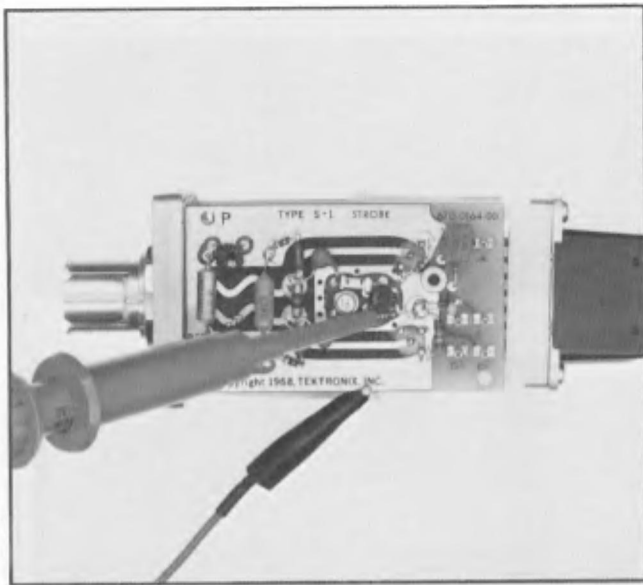
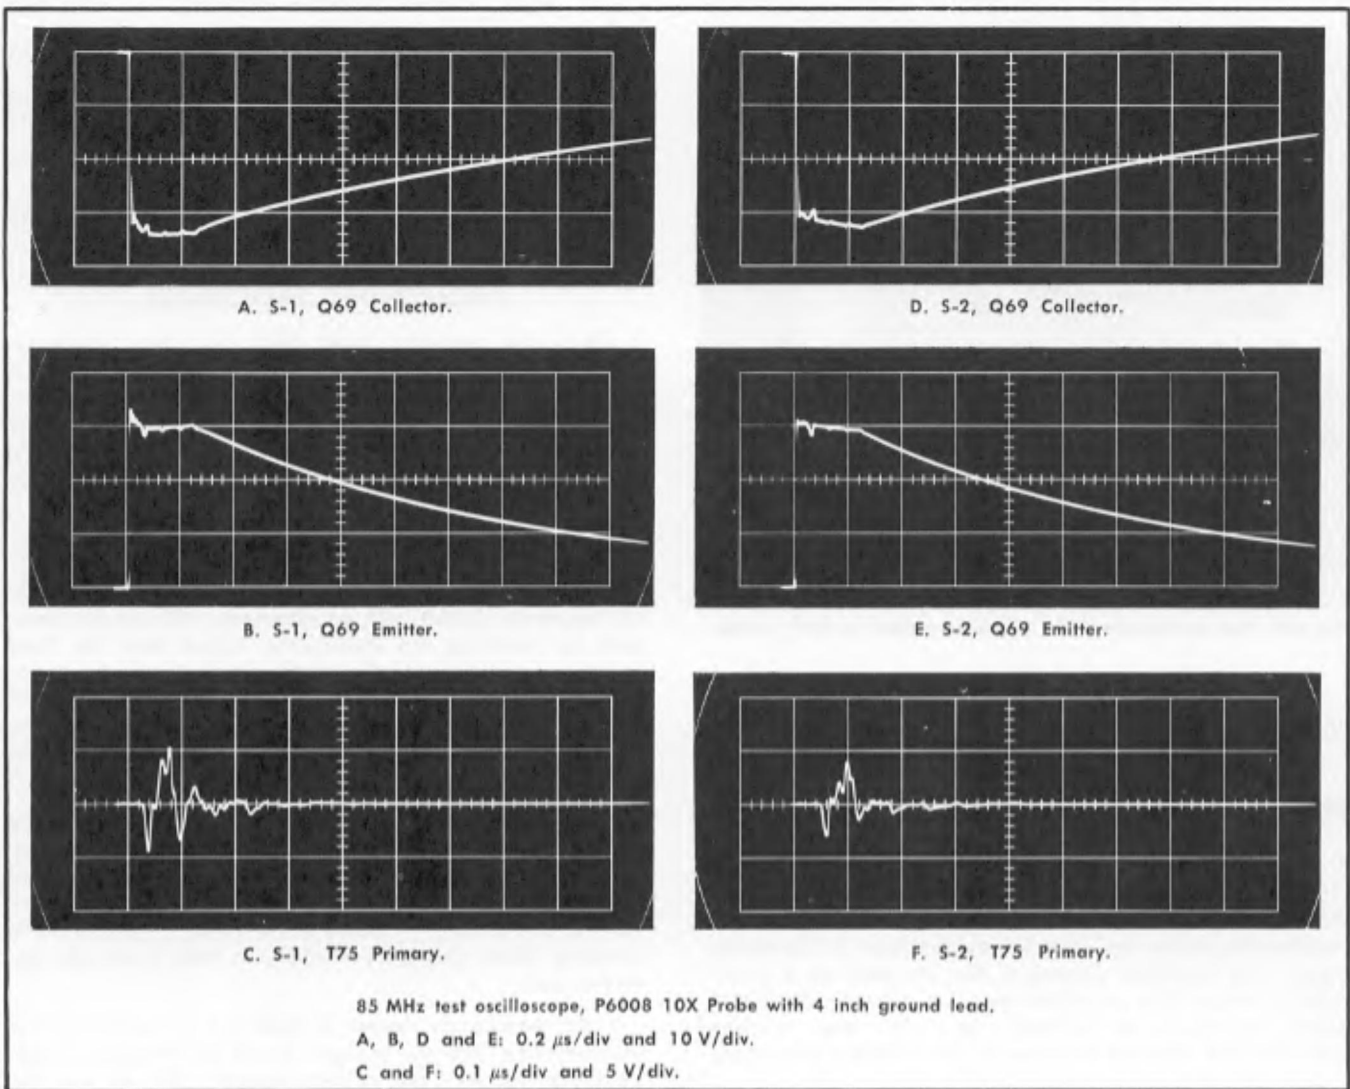

Fig. 5-2. Test oscilloscope 10X probe connected to Q69 emitter.
Fig. 5-3. Checking Avalanche drive and output.
d. Use the test oscilloscope with 10X Probe to check for proper operation of Q69. The probe connections are shown in Fig. 5-2, and the general nature of the signals is shown in Fig. 5-3. Fig. 5-3A and B show the general amplitude for Q69 collector and emitter signals in a Type S-1 Sampling Head. Fig. 5-3D and E show the Q69 signals in a Type S-2 Sampling Head. Fig. 5-3C and F show the S-1 and S-2 typical drive signals at T75 primary (square terminal E) while the head is on the extender cable.
displayed noise, so it is best to have several transistors of this type on hand and grade them for low noise using step 11). If all signals of Fig. 5-3 are present, check the Pre-amplifier output (square terminal D). If there is no signal at the Pre-amplifier output, check the sampling diodes and Q31 in the following manner.